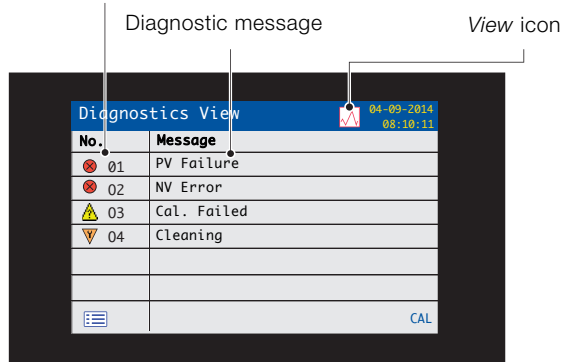

Fig. 8.6 Diagnostics view
- *Diagnostics view* – displays a list of active diagnostic messages identified by priority and message – see Fig. 8.6